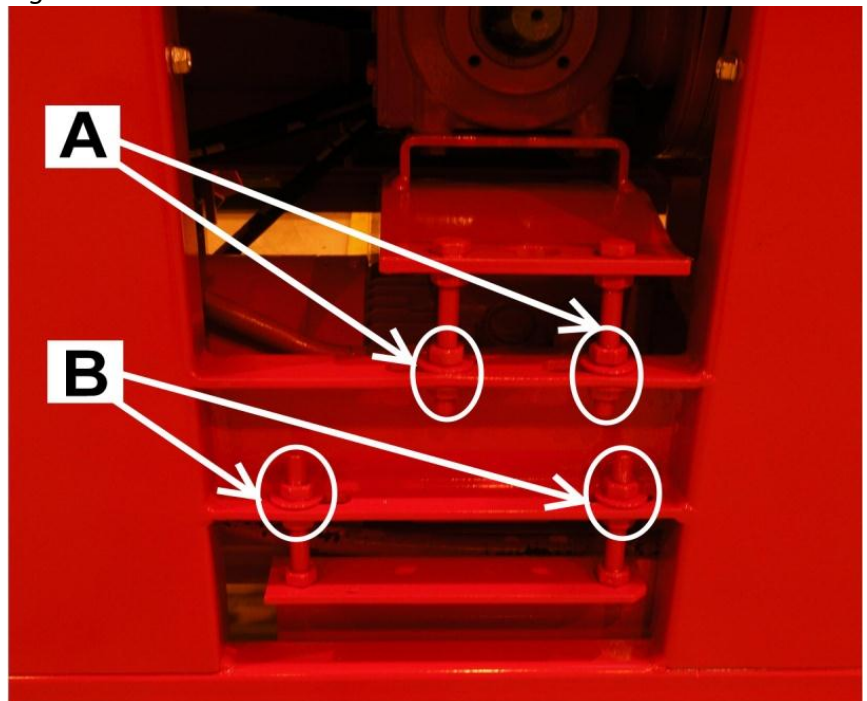

Figure 42.
2. Use the adjustment screws A (in Figure 42, 4 pcs) to lift the transmission bed high enough to enable you to slip the V-belts (3 pcs A38) off the angle transmission's belt pulley.
7. Tighten the V-belts to the correct tension by lowering the transmission bed with the adjustment nuts A (in Figure 42).